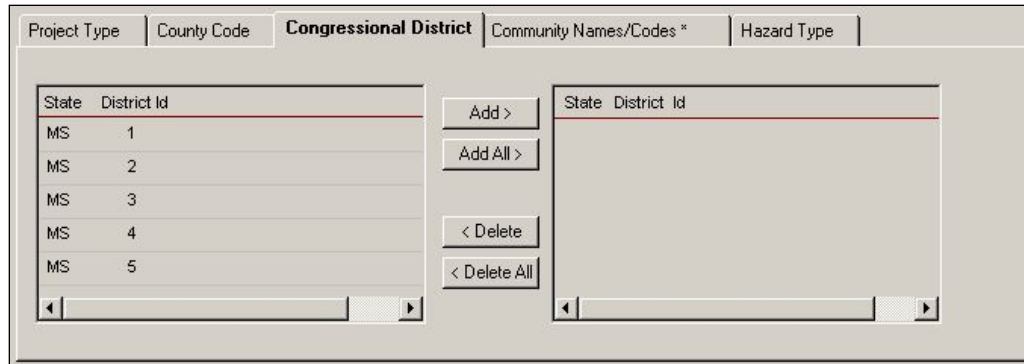

Figure 6-34: Mitigation > Projects > Application Development > Project Info > Congressional District Sub-tab
12. Click the **Congressional District** sub-tab (Figure 6-34).